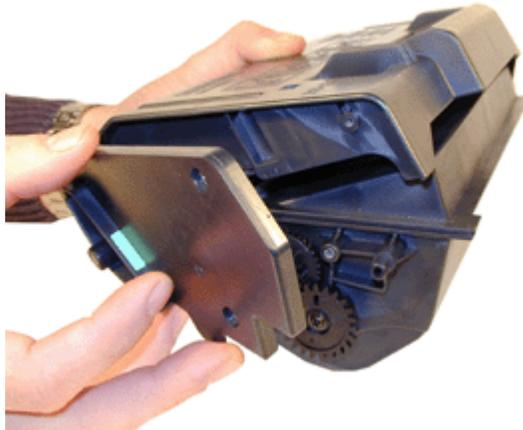

FIGURE 4
2. Carefully remove the end cap. Note the location of the gears. See Figures 4 & 5